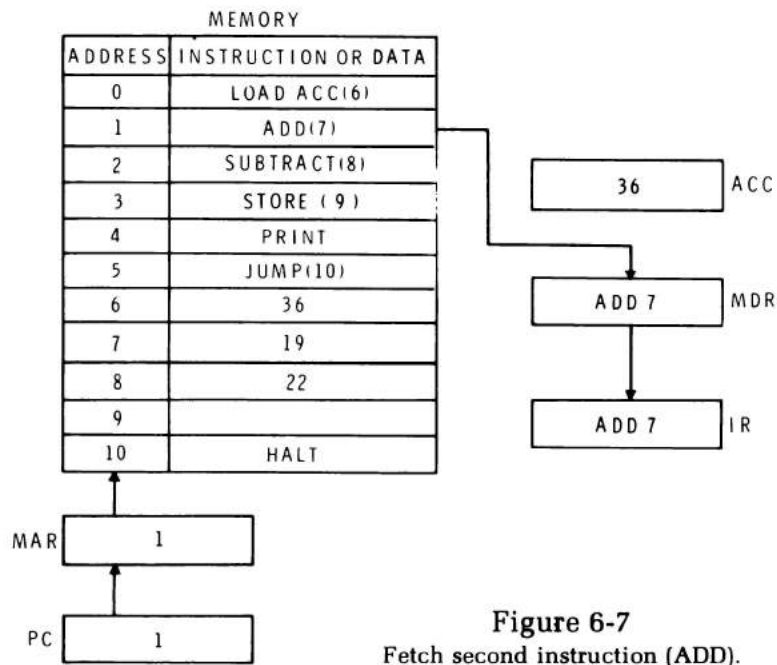

Figure 6-7
Figure 6-7 shows the fetch operation for the second instruction. The contents of the program counter is transferred to the MAR so that the ADD(7) instruction is fetched. This instruction passes through the MDR into the instruction register.